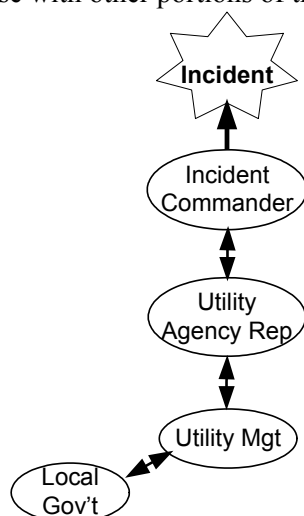

Figure 6: Utility “Agency Rep” Reporting as part of city/county government
While command remains in the field with the Incident Commander (IC), for a utility that is part of a city or county government, the utility management may activate a Department Operations Center or Utility Operations Center to rally resources of the department to coordinate its response. The utility department may have to coordinate its response with other portions of the local government. *See Figure 6.*